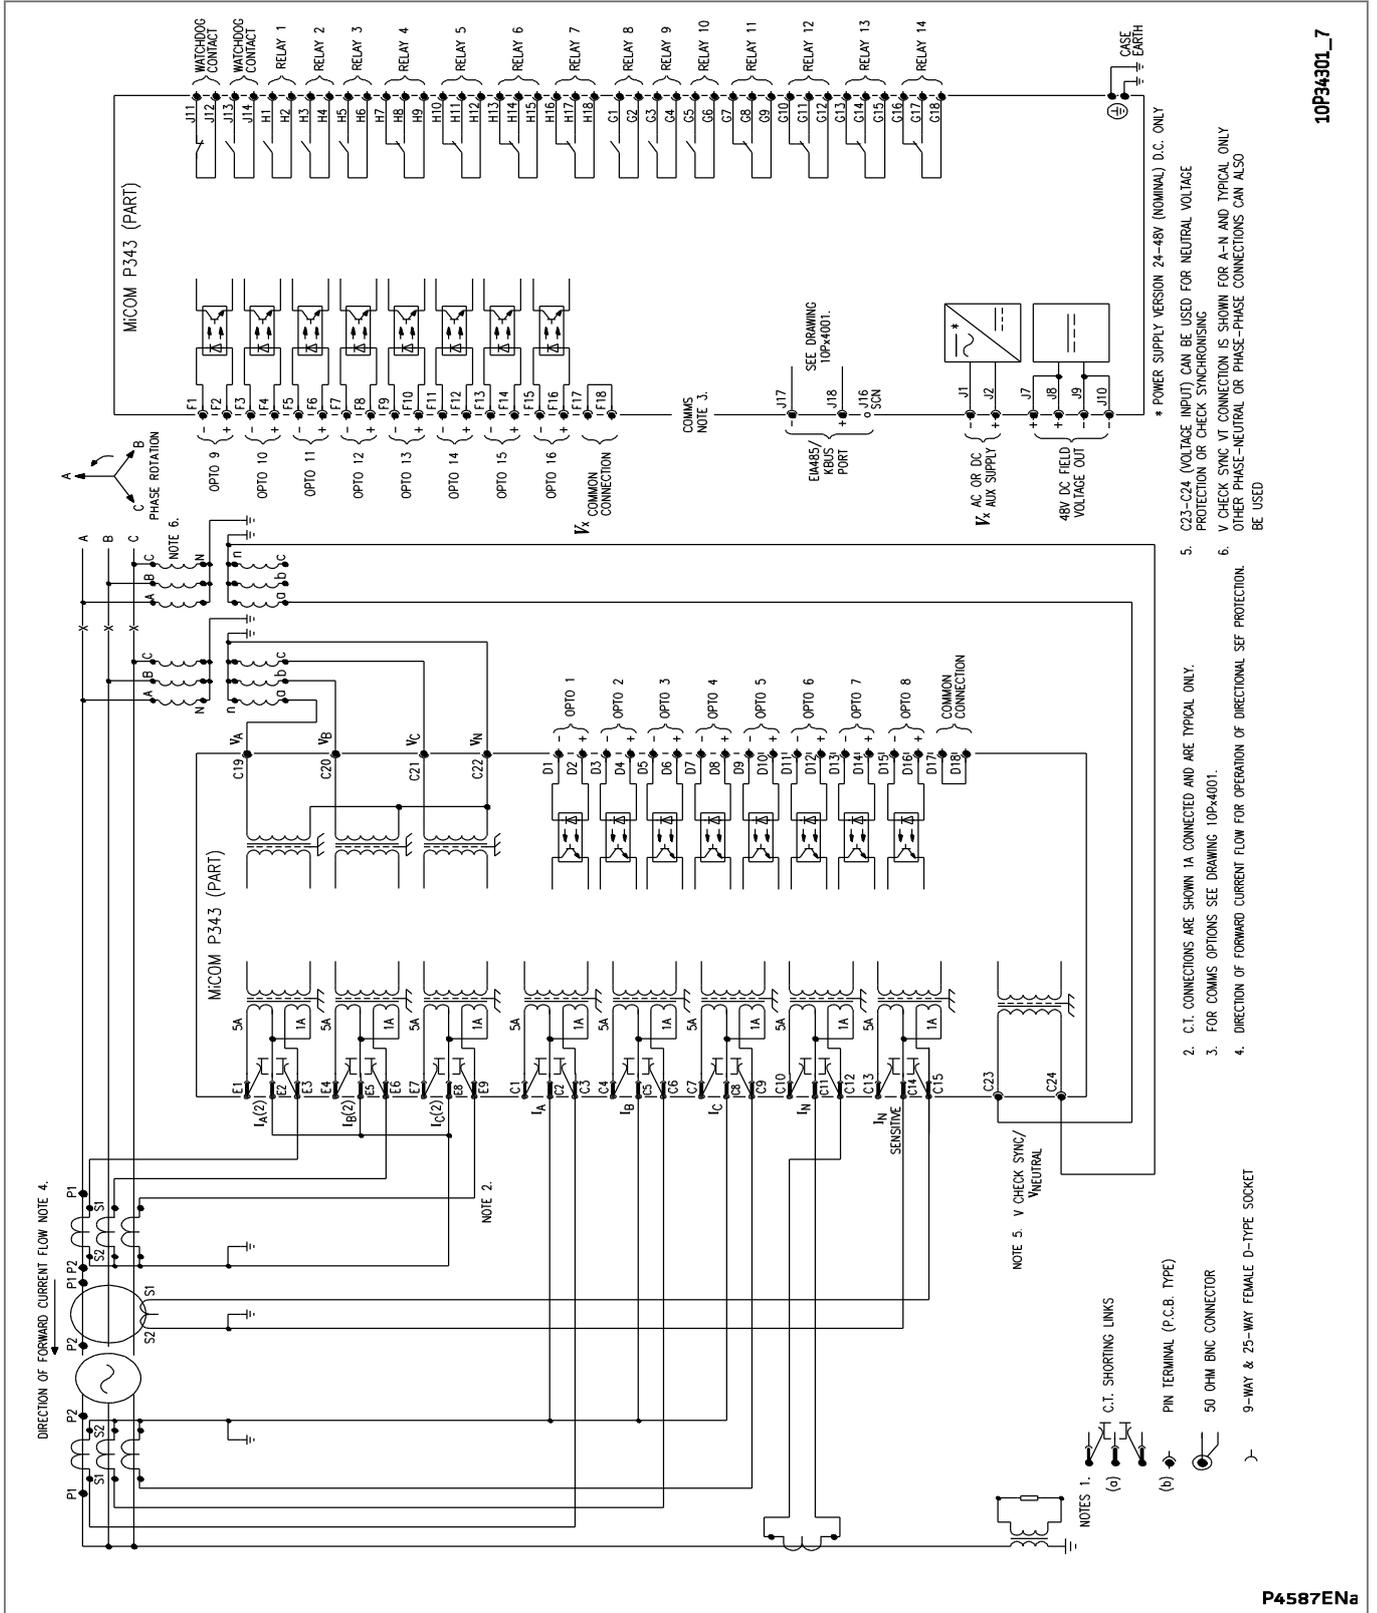

Figure 27 - P343 (60TE) for biased differential and check synchronizing (16 I/P & 14 O/P)
- Figure 27 - P343 (60TE) for biased differential and check synchronizing (16 I/P & 14 O/P)